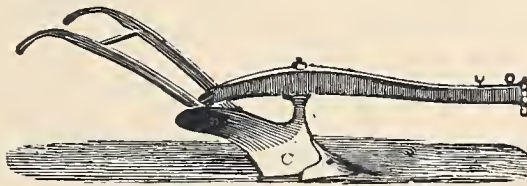

Fig. 252. — Improved Eagle Plow, No. A.
**Eagle Plow, No A**, represented by *Fig. 252*, is an ordinary one-horse plow.